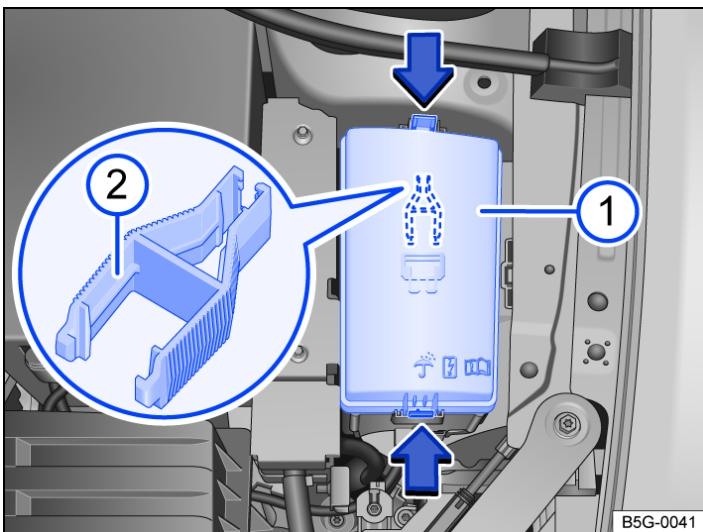

Fig. 1 In the engine compartment: cover 1 of the fuse box including plastic pliers 2.
- Press the catches in the direction of the arrow \rightarrow Fig. 1 to release the fuse box cover \rightarrow Fig. 1 1.